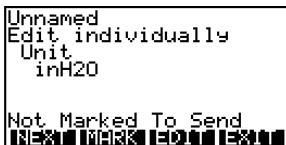

FIGURE 1-14. Edit Individually Menu.
**Edit individually** (Figure 1-14) opens the Edit Individually menu containing numerous configuration variables.